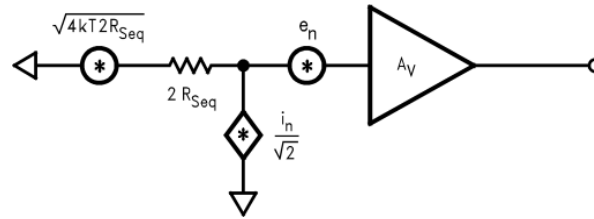
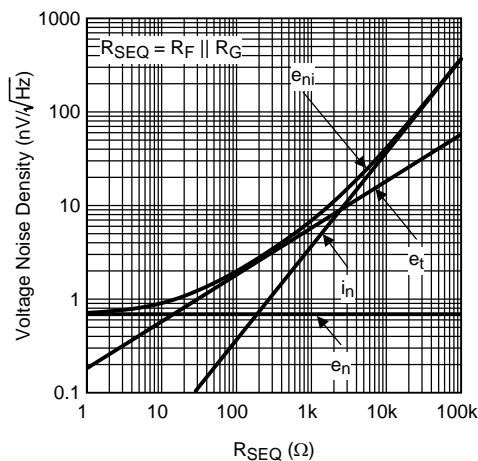

Figure 59. Noise Model with $R_f || R_g = R_{seq}$
Figure 60. Voltage Noise Density vs. Source Resistance
Figure 59 illustrates the equivalent noise model using this assumption. Figure 60 is a plot of e_{ni} against equivalent source resistance (R_{seq}) with all of the contributing voltage noise source of Equation 4. This plot gives the expected e_{ni} for a given (R_{seq}) which assumes $R_f || R_g = R_{seq}$ for bias current cancellation. The total equivalent output voltage noise (e_{no}) is $e_{ni} * A_V$.
As seen in Figure 60, e_{ni} is dominated by the intrinsic voltage noise (e_n) of the amplifier for equivalent source resistances below 15Ω . Between 15Ω and $2.5\text{ k}\Omega$, e_{ni} is dominated by the thermal noise ($e_t = \sqrt{4kT(2R_{seq})}$) of the equivalent source resistance R_{seq} ; incidentally, this is the range of R_{seq} values where the LMH6629 has the best (lowest) Noise Figure (NF) for the case where $R_{seq} = R_f || R_g$.
Above $2.5\text{ k}\Omega$, e_{ni} is dominated by the amplifier's current noise ($i_n = \sqrt{2} i_{nR_{seq}}$). When $R_{seq} = 190\Omega$ (i.e., $R_{seq} = e_n / \sqrt{2} i_n$), the contribution from voltage noise and current noise of LMH6629 is equal. For example, configured with a gain of $+10\text{V/V}$ giving a -3dB of 825 MHz and driven from $R_{seq} = R_f || R_g = 20\Omega$ ($e_{ni} = 1.07\text{ nV}/\sqrt{\text{Hz}}$ from Figure 60), the LMH6629 produces a total equivalent output noise voltage ($e_{ni} * 10\text{ V/V} * \sqrt{(1.57 * 825\text{ MHz})}$) of $385\text{ }\mu\text{V}_{\text{rms}}$.